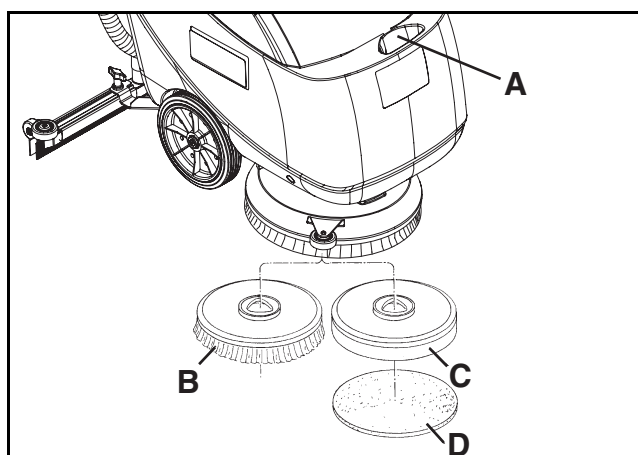

Figure 11
2. Fill the solution tank (A, Fig. 11) with a solution suitable for the work to be carried out.
According to the kind of cleaning to be carried out, the machine can be equipped both with the brush (B, Fig. 11) and the pad-holder (C) with pad (D).
5. Place the brush (B, Fig. 11) or the pad-holder (C) with pad (D) under the cover.